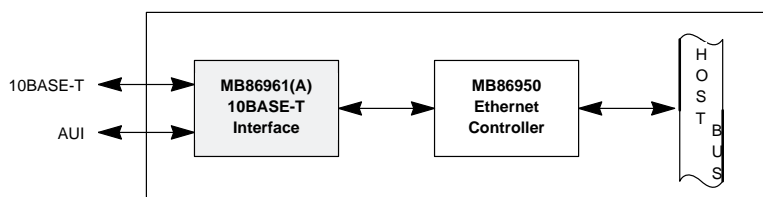
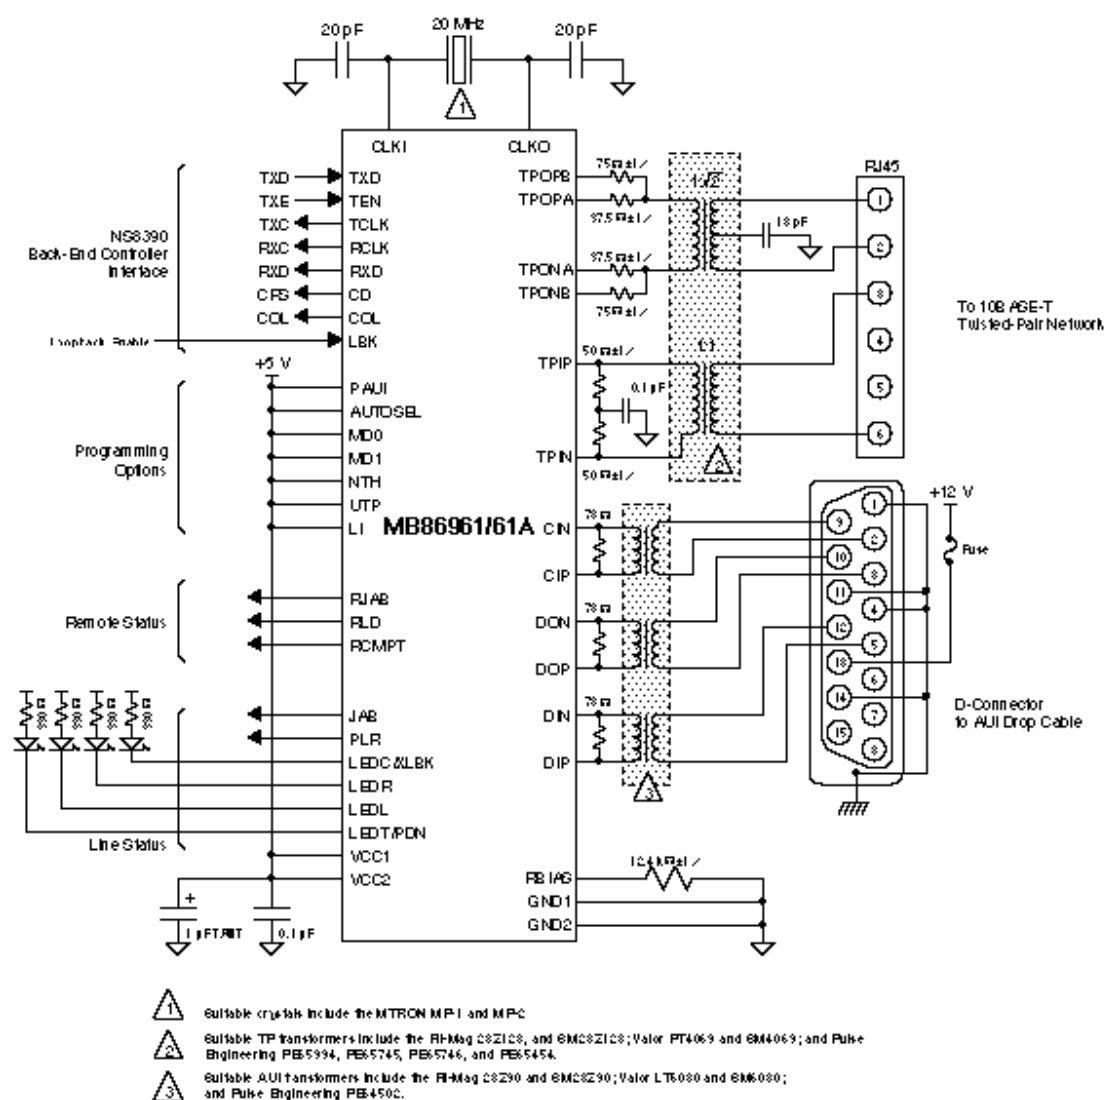

Figure 1. Typical System Diagram
Figure 2. LAN Adapter Board Application - Auto Port Select with External Loopback Control
Figure 1 shows the MB86961 (A) in a typical application, interfacing between a controller and the RJ45 connector of the twisted-pair network. Figures 2 through 5 show detailed diagrams of various MB86961 (A) applications.
The UTP and NTH pins are both tied high selecting the standard receiver threshold and 100 Ω termination for unshielded TP cable. (See Figure 2.)
With MD0 low and MD1 tied high, the MB86961 (A) logic and framing are set to Mode 3 (compatible with Fujitsu MB86950 and MB86960 controllers). As in Figure 2, the LI pin is tied high, enabling Link Testing, and the UTP and NTH pins are both tied high, selecting the standard receiver threshold and 100 Ω termination for